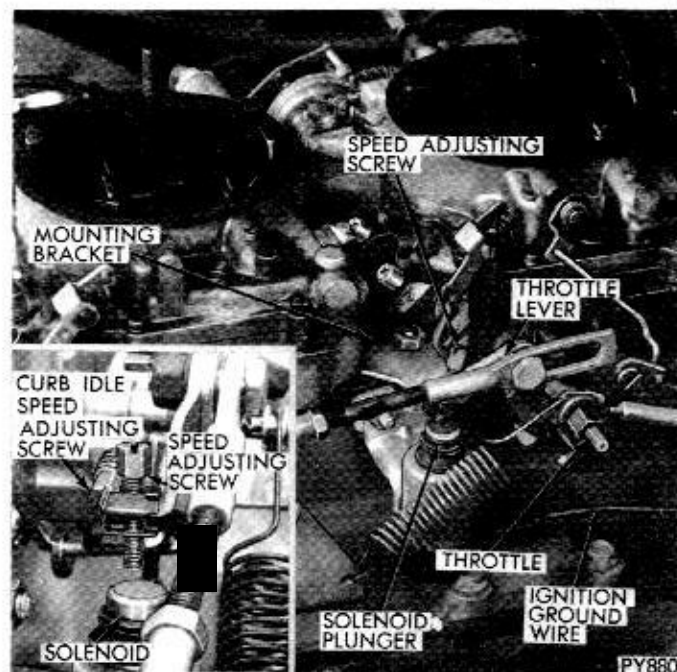

Fig. 23—Curb Idle Speed Solenoid Adjustment
(1) Warm up engine to normal operating temperature, then attach a tachometer.
(2) With engine running, turn idle speed solenoid adjusting screw **in** or **out** to obtain 900 r.p.m. on automatic transmission equipped vehicles and 1000 r.p.m. on standard transmission equipped vehicles. (Fig. 23).
(3) After specified r.p.m. has been obtained and with engine still running (to energize solenoid), adjust curb idle speed screw until end of screw **just touches** stop on carburetor throttle body. Now, back off 1 full turn to obtain slow curb idle speed setting. (Approximately 650 to 700 r.p.m.)